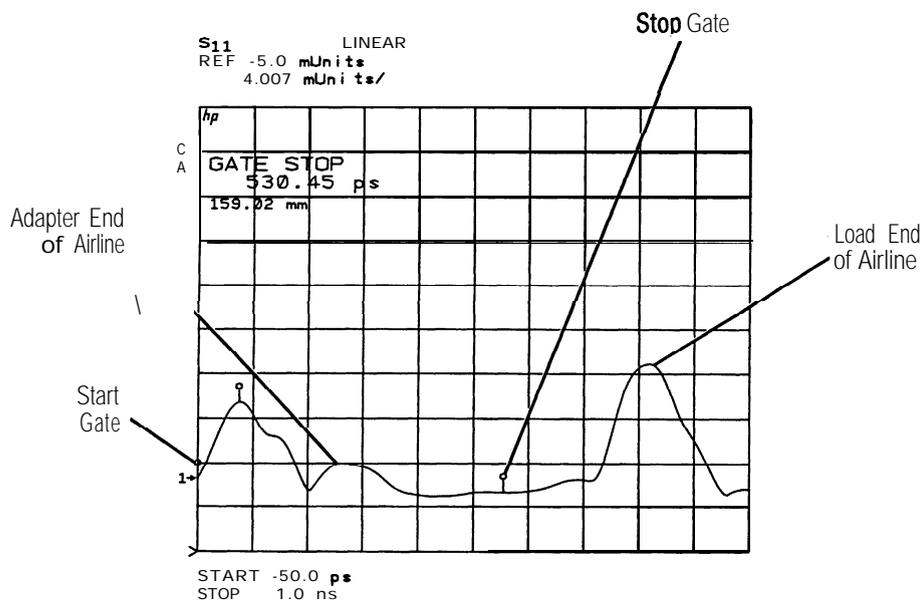

Figure 2. Location of Gates and Airline
10. Using the RPG, adjust the stop gate to the center of the airline (see Figure 2).